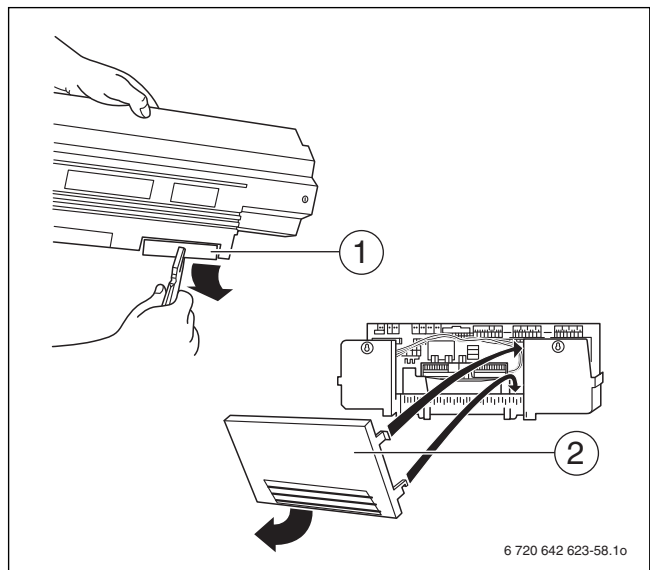

Fig. 61 Preparing the cable entry
- ▶ If necessary, make knock-outs (→ Fig. 61, [1]) in the rear panel of the cable entry (Logamatic 33xx) or remove the rear panel section (Logamatic 43xx) (→ Fig. 61, [2]).
- ▶ Engage the lower hook of the rear panel (Logamatic 43xx) with the frame at an angle and tilt upward until the upper hooks engage with the side panels (→ Fig. 61, [2]).